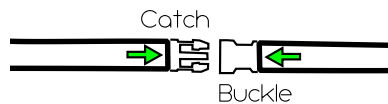

Figure 5.13
- To close the belt, push the catch into the buckle. The belt will close. (Fig 5.13)